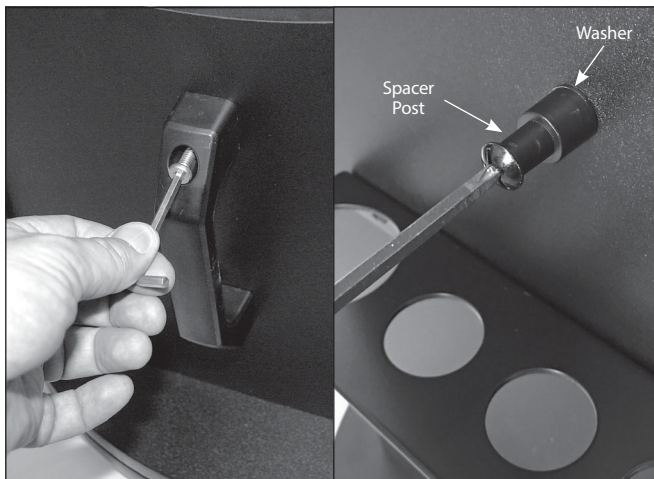

Figure 9. Use the Allen wrench and the two included handle mounting screws to attach the handle to the front panel
6. Install the base handle on the front panel using the two handle mounting screws and the small Allen wrench. Insert the screws through the holes in the handle and into the holes containing metal threaded inserts in the front panel, then tighten (**Figure 9**).